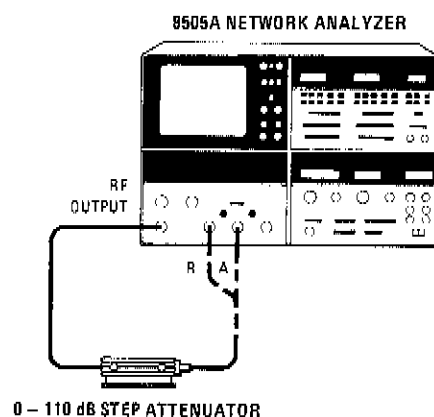

Figure A5-24. Magnitude Detector Adjustment Test Setup
- b. Connect equipment as shown in Figure A5-24 with step attenuator connected to "R" input and to RF OUTPUT.